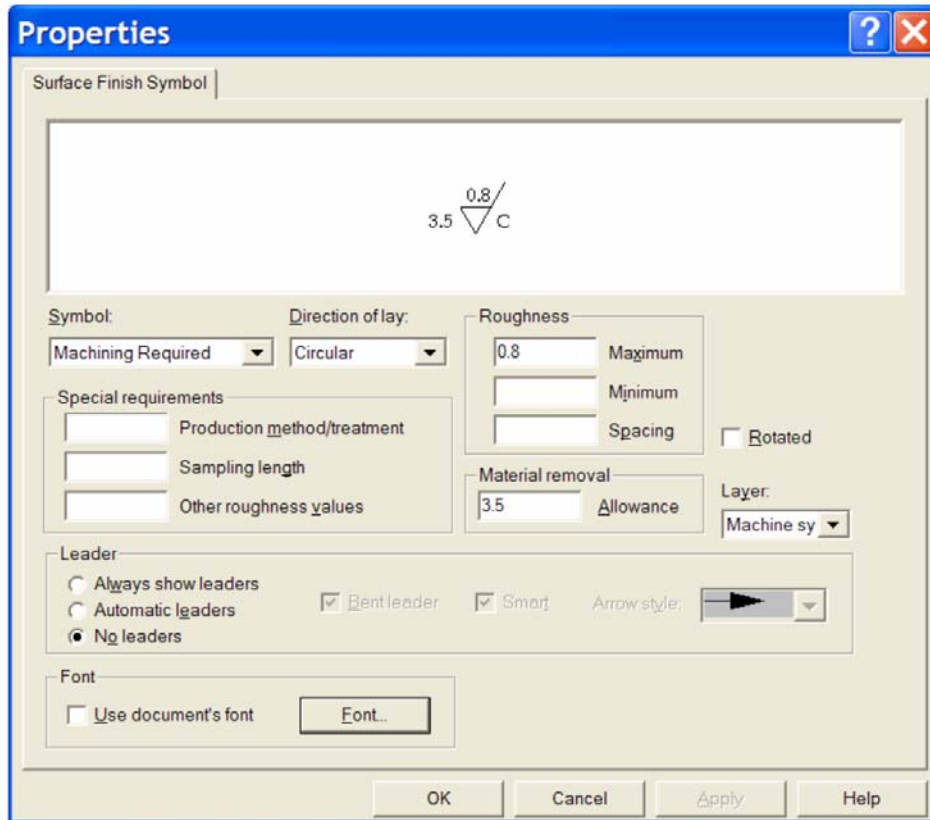

Figure 11
15. The **Surface Finish Symbol Properties** window opens. Notice the preview window. In the '**Symbol Window**' choose '**Machining required**'. Notice the change in the preview window. In the '**Direction of Lay**' window choose '**Circular**'. In the '**Roughness Maximum**' window enter a value of **0.8 (μm)**. In the '**Material removal Allowance**' window enter a value of **3.5 (mm)**. Notice the symbol being built in the preview window. We **DO NOT WISH** to use **Leader Lines** to place the symbols, so ensure that '**No Leaders**' is selected. We may control the size of the symbol by using the '**font**'. Uncheck the '**Use documents font**' box and open the font dialog box. Change the font to '**Book Antiqua**' with a height of **12 points**. Notice that the symbol in the preview box shows these changes as they are entered. See Figure 11.